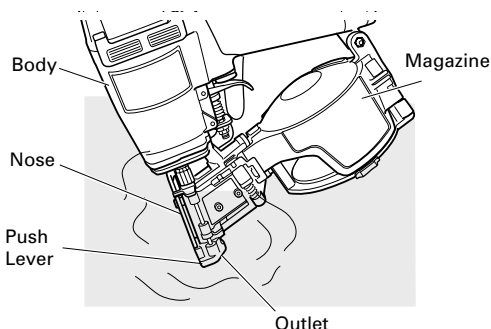

Fig. 15
- (1) Please immerse only the area around the discharge outlet in solvent and do not immerse the cylinder or magazine. (See Fig. 15)